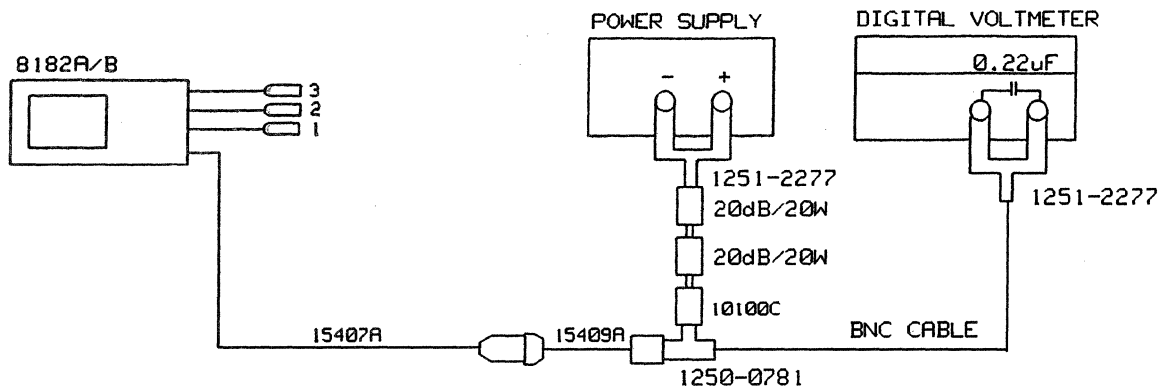

Figure 7-8. Test Setup for the Data Offset and Gain Test
- Connect the equipment as shown in Figure 7-8 and press RUN.